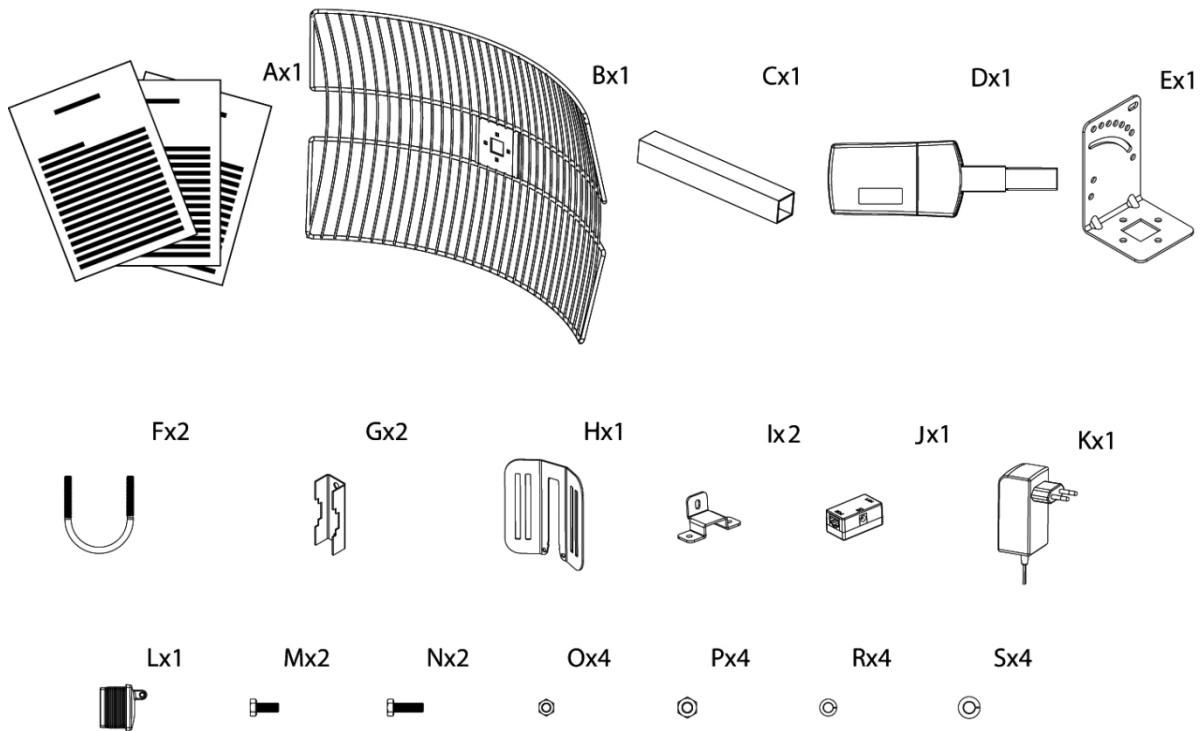

Figure 1 – APC 2S-20 Package Contents
- Step 2.** Attach the reflector (item H in the *Figure 1 – APC 2S-20 Package Contents*) on the unit and push it downwards until it clicks into position:
Step 3. Attach a mounting frame to the antenna grid (items E and B in the *Figure 1 – APC 2S-20 Package Contents*) together with the pipe and pipe's frame details (items C and I in the *Figure 1 – APC 2S-20 Package Contents*) and fix them with four hexagon bolts, spring washers and nuts (items M, N, R and O in the *Figure 1 – APC 2S-20 Package Contents*).
Step 4. Insert the UTP cable into the unit's ETH port and fix the APC 2S-20 unit on the pipe (items C and D in the *Figure 1 – APC 2S-20 Package Contents*):
- Step 5.** For the pole mounting attach APC 2S-20 unit on pole with two U bolts in a required position and tighten with the hexagon M6 nuts and spring washers (items F, P and S in the *Figure 1 – APC 2S-20 Package Contents*):
- Step 6.** Place a rubber seal (item L in the *Figure 1 – APC 2S-20 Package Contents*) on the UTP cable and insert it into the mounting bracket's hole: